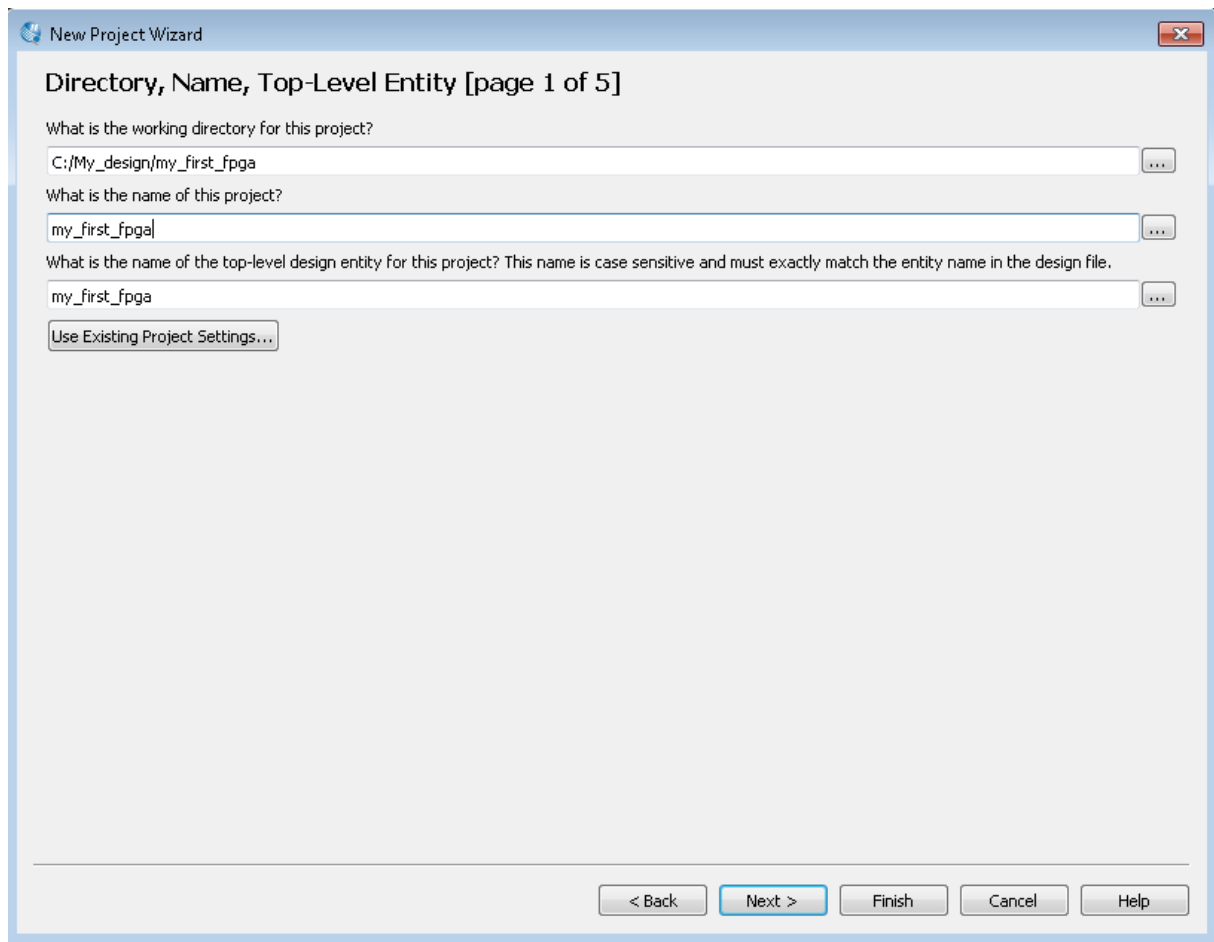

Figure 2-2 Project information
- e. What is the name of the top-level design entity for this project? Type my_first_fpga. See **Figure 2-2**.